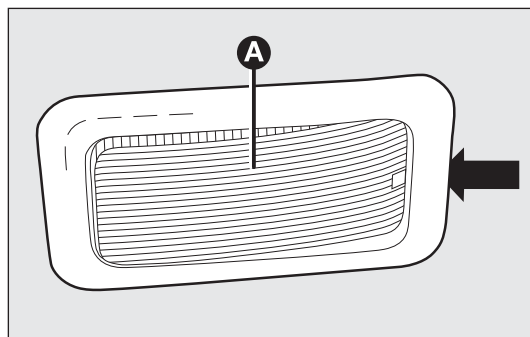

fig. 160
- ☐ using the screwdriver provided, extract the ceiling light A-fig. 160 working in the point shown by the arrow;